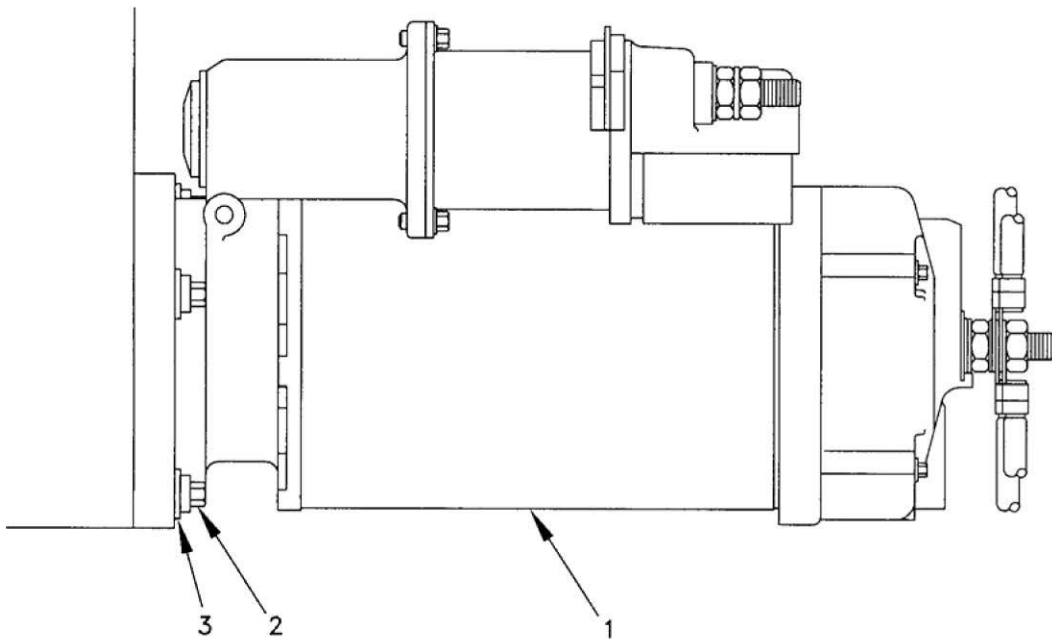

Figure 1. Starter.
3. Tag and disconnect wiring from ground terminal and solenoid on starter (Figure 1, Item 1).
4. Remove three bolts (Figure 1, Item 2), washers (Figure 1, Item 3), and starter (Figure 1, Item 1).
1. Position starter (Figure 1, Item 1) into flywheel housing, ensure starter gear teeth mesh with flywheel gear teeth, and line up mounting holes. Install three washers (Figure 1, Item 3) and bolts (Figure 1, Item 2). Tighten bolts.
3. Remove tags. Connect wiring to solenoid on starter (Figure 1, Item 1) and wiring to ground terminal.